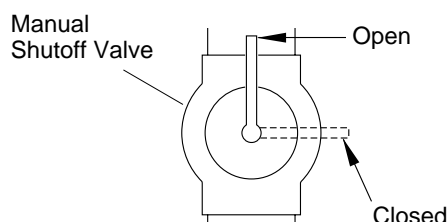

Figure 16 - Manual Shutoff Valve
1. Close manual shutoff valve (see Figure 16).
1. Open manual shutoff valve (see Figure 16).